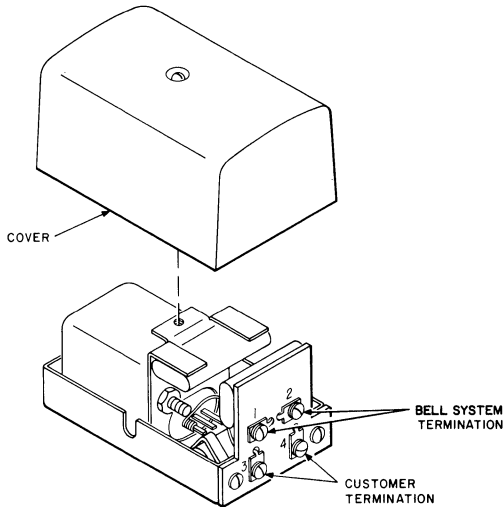

Fig. 1—31B Voice Coupler
- Coupler, Voice, 31B-49, (Fig. 1) for use with 2-wire facilities—provides one voice coupler circuit per unit.